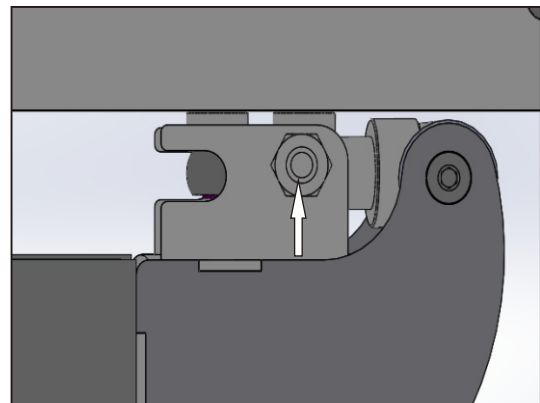

Fig.2
3. Measure the diagonal's error of the wood board to proceed adjustment parts, lock the nut Fig.2 after adjustment.